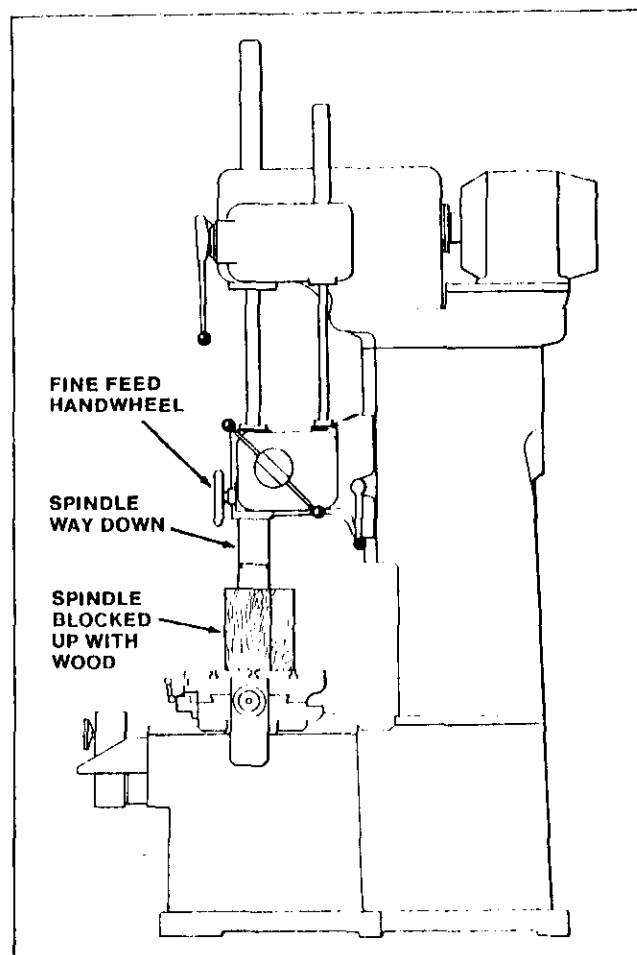

Figure M-4. Blocking Up Sliding Head
7. Block up the spindle and sleeve with wooden blocking built up from the table (see Figure M-4).
REASSEMBLING THE SLIDING HEAD (Figure M-4)